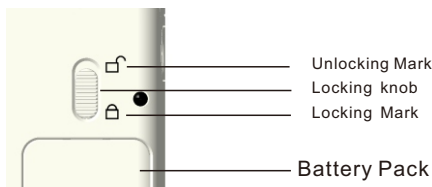
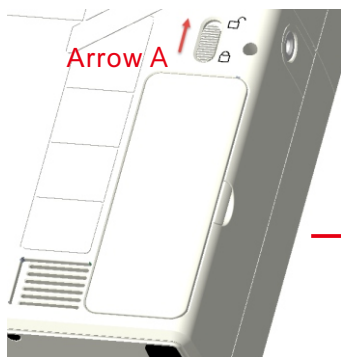
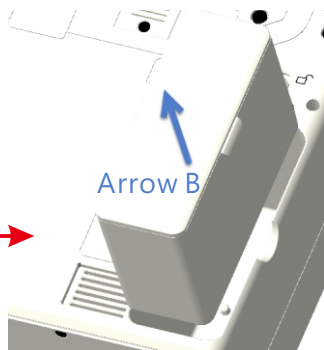

Figure:9
Figure:10
Figure:11
2. 4.1 Removing Battery Pack (Please refer to Figure 9, figure 10 and Figure 11):